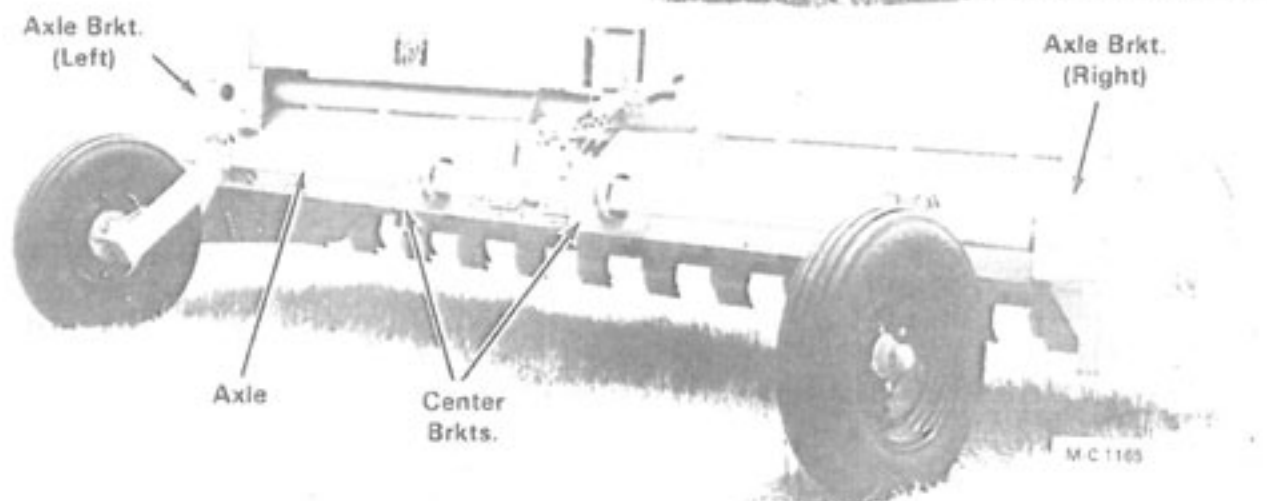

Figure 8 - Model 8 HD Shown
2. Mount the left axle bracket as shown in Figure 8 with two  $\frac{1}{2}$ -13 x  $1\frac{1}{4}$ " (Grade 5) hex-head capscrews, lockwashers and hex-nuts.
3. Install the two center brackets on the outside of the rear body ribs, see Figures 8 and 9. Use two  $\frac{5}{8}$ -11 x  $1\frac{3}{4}$ " (Grade 5) hex-head capscrews, lockwashers and hex-nuts on each side. **Do not tighten.**
4. Slide the rear axle through the center brackets and into the axle bracket on the left side. Place the right axle bracket over the end of the axle and mount it to the right side of the mower body with two  $\frac{1}{2}$ -13 x  $1\frac{1}{4}$ " (Grade 5) hex-head capscrews, lockwashers and hex-nuts, see Figure 8.
10. Install the wheel mount and hub assemblies to the rear axle, see Figure 8. Tighten the wheel mount clamps so both wheels contact the ground at the same time. The position or spacing on the axle can be adjusted for your specific needs. Additional wheel mount assemblies can be added for increased floatation. See page 36 & 37 for part numbers.